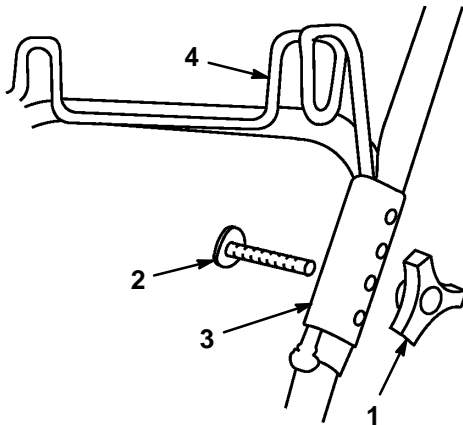

Figure 41
6. Remove knob and bolt securing left side upper and lower handle sections (Fig. 41).